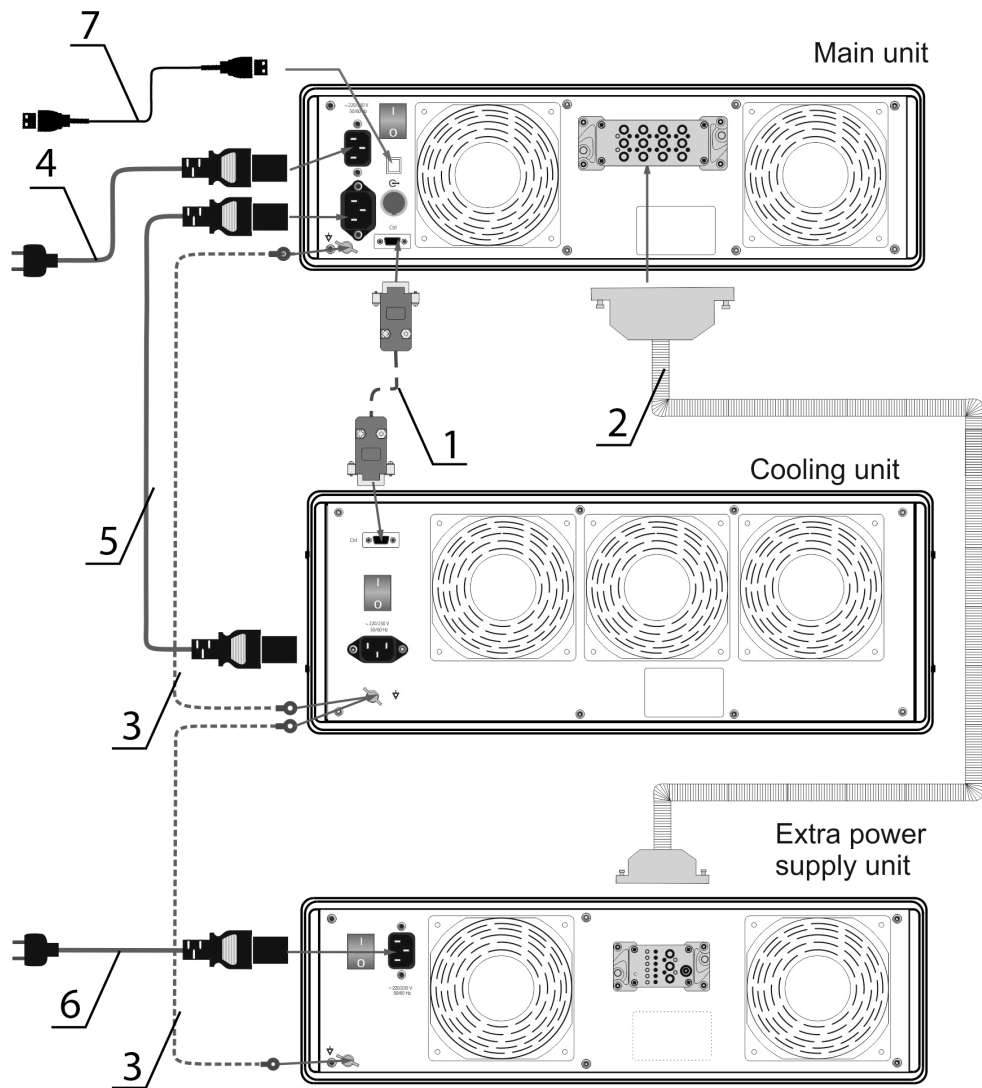

Fig. 18. Connection diagram.
- 2.4.3.5 Interconnect the units according to Fig. 18. Do not plug them into the mains sockets and PC.
The figures in Fig. 18 indicate the following: